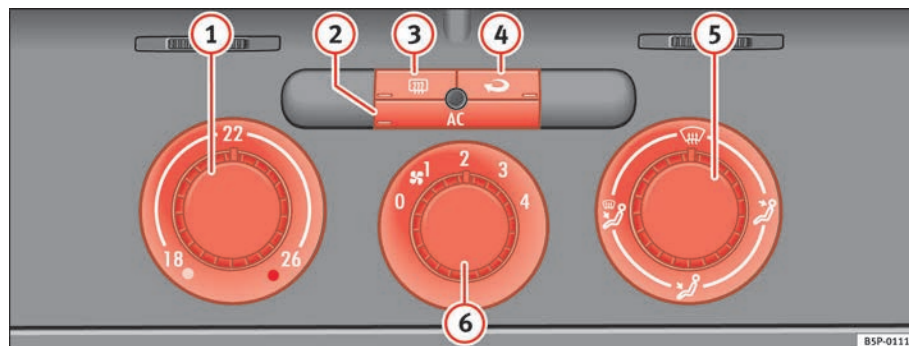

Fig. 127 On the dash panel: Climatic controls
- Using the controls ⇒ fig. 127 (1) and (5) and the control (6) you can set the temperature, air distribution and the turbine speed.
- To switch a function on or off, press the appropriate button (2), (3) or (4). When the function is activated, the display window in the lower corner of the button is lit.
(1) Temperature selector ⇒ page 153
(2) Button [AC] – Heating, ventilation and air-conditioning system on/off ⇒ page 153
- (3) Button [] – Rear window heating. The heating will be switched off automatically approximately 20 minutes after switching on. It can also be switched off beforehand by pushing the button.
- (4) Button [] – Air recirculation mode ⇒ page 154
- (5) Air distribution control ⇒ page 153
- (6) Blower switch. There are four speed settings for the air flow. The air flow should always be set at the lowest speed when driving slowly.
- Switch on the air conditioning using the button ⇒ page 152, fig. 127 .